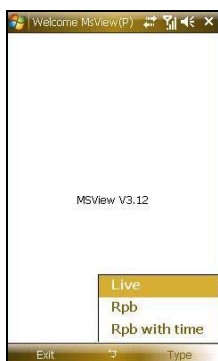

Figure 10-12
3. Select **Type** and then **Rpb** (Figure 10-12). The login screen appears. If you want to search the recordings within a specific period of time for playback, select **Rpb with time**.